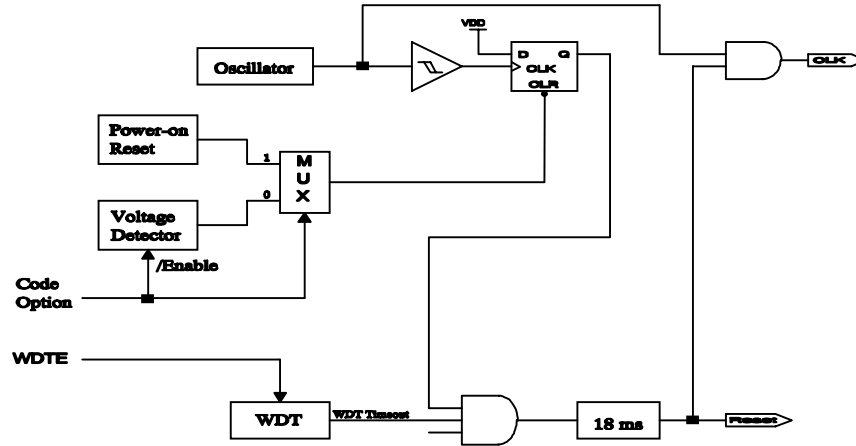

Fig. 8 Block diagram of Reset of controller
- (1) Power on reset, or Voltage detector
(2) WDT timeout. (if enabled and in GREEN or NORMAL mode)
Note that only Power on reset, or only Voltage detector in Case(1) is enabled in the system by CODE Option bit. If Voltage detector is disabled, Power on reset is selected in Case (1). Refer to Fig. 8.